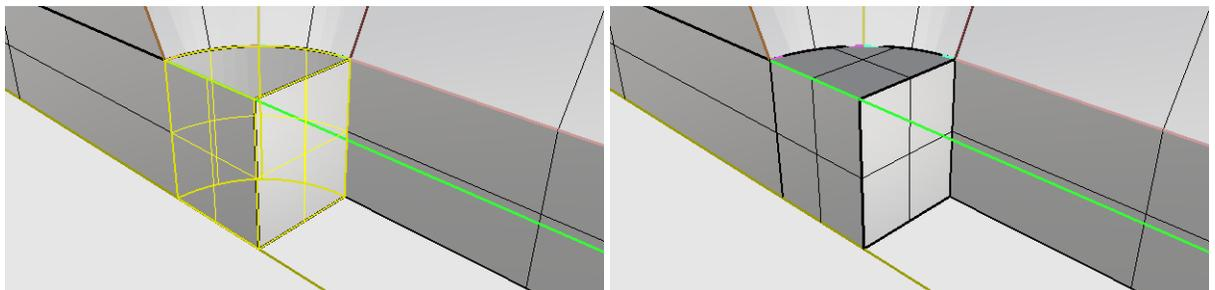

Figure 80: Building a quarter-cylinder solid. Left, the lateral surfaces. Right, the completed solid.
- Use **_ExtractSrf** and click on the 2 cylindrical surfaces, then press **<ENTER>**. While the two surfaces are selected, hold the **<Shift>** button down and select the **two** small rectangular surfaces you just built. With these **4** surfaces selected, **Edit|Join** them into a **Polysurface** (Figure 80, left). With the **Polysurface** selected, select **Solid|Cap planar holes** to turn it into a solid (right).